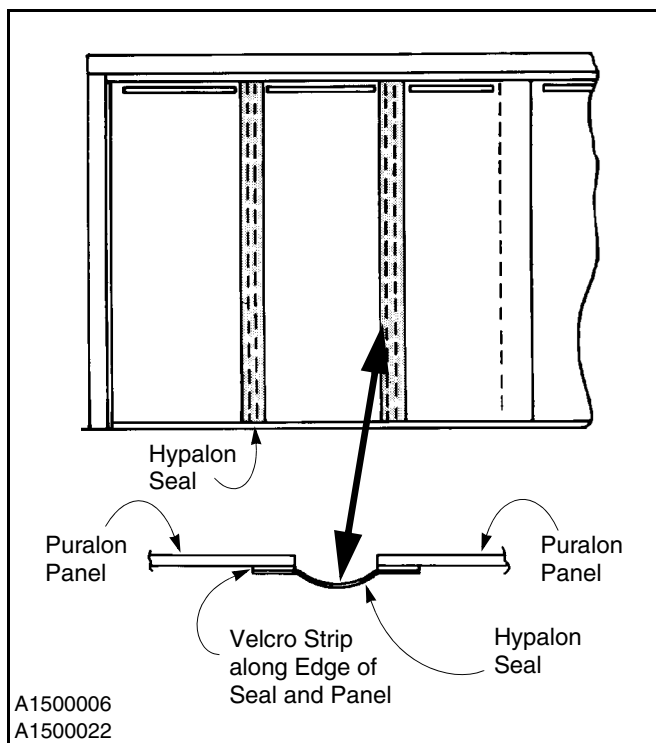

Figure 8
4. Check to make sure the seals are not torn or damaged. They should also be securely fastened to the door panels and side panels. (See Figure 8.)